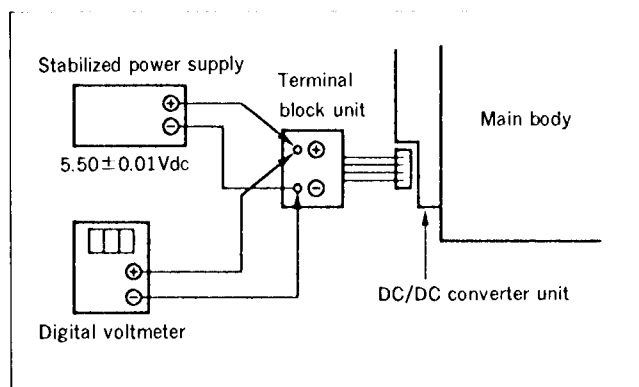

Fig. 5-6.
- 1) Connect a stabilized power supply and a digital voltmeter as shown in Fig. 5-6.